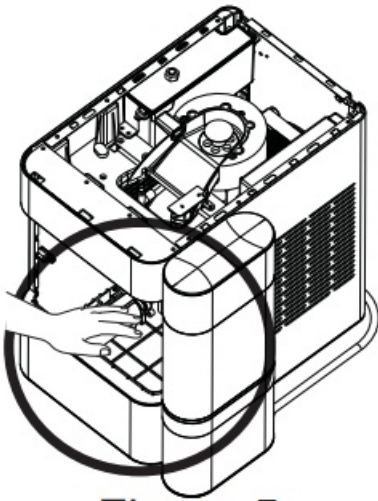

Figure 5
- Clean the sensors with vinegar and wipe clean with water. See figures 5, 6, and 7 to reference location of the sensors. Appearance may vary based on model.